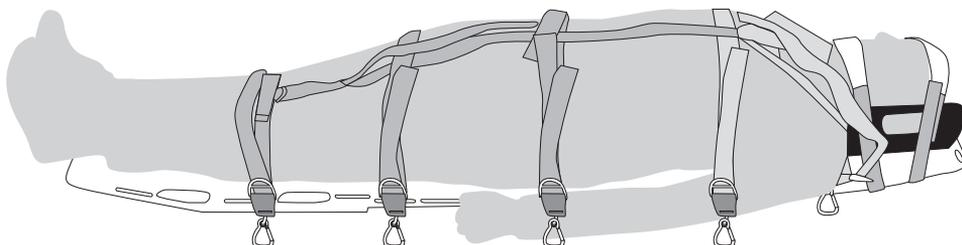

Fig.7
- b) Position the "TAYLAN" belt as shown in figure 7,